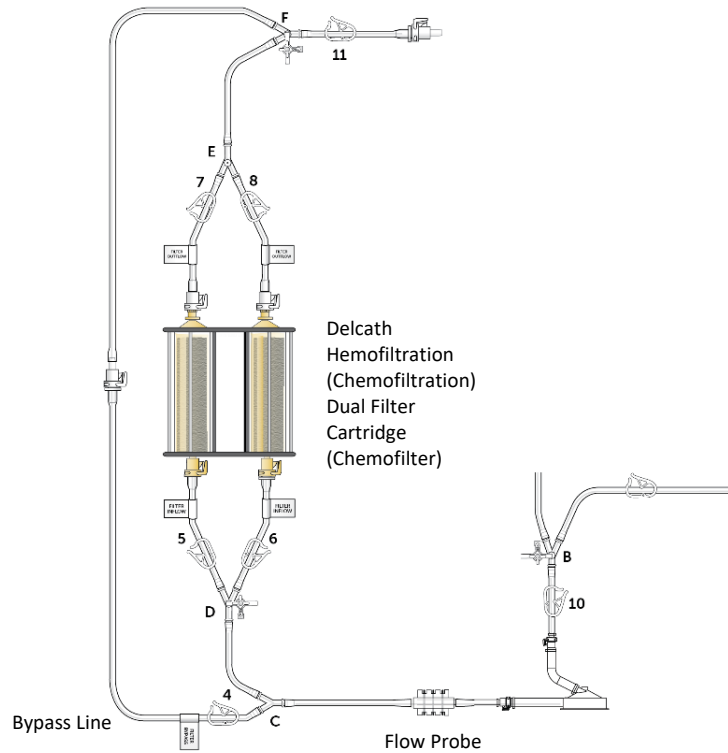

Figure 16
(a) Close clamp 4 and open filter inlet clamps (5, 6) then filter outlet clamps (7, 8) and circuit outlet clamp (11) (see Figure 16) and adjust the flow of heparinized normal saline into the filter to a rate of approx. 0.5 liters per minute. Note: Hemostats (forceps) are required to adjust flow rate if using gravity.